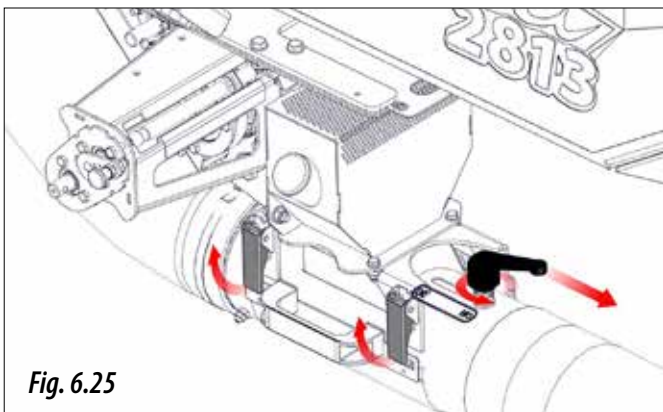

Fig. 6.25
- 2- Open the Venturi injector cover by lifting the two quick-release fasteners and moving the calibration control to the "NO" position (Fig. 6.25).